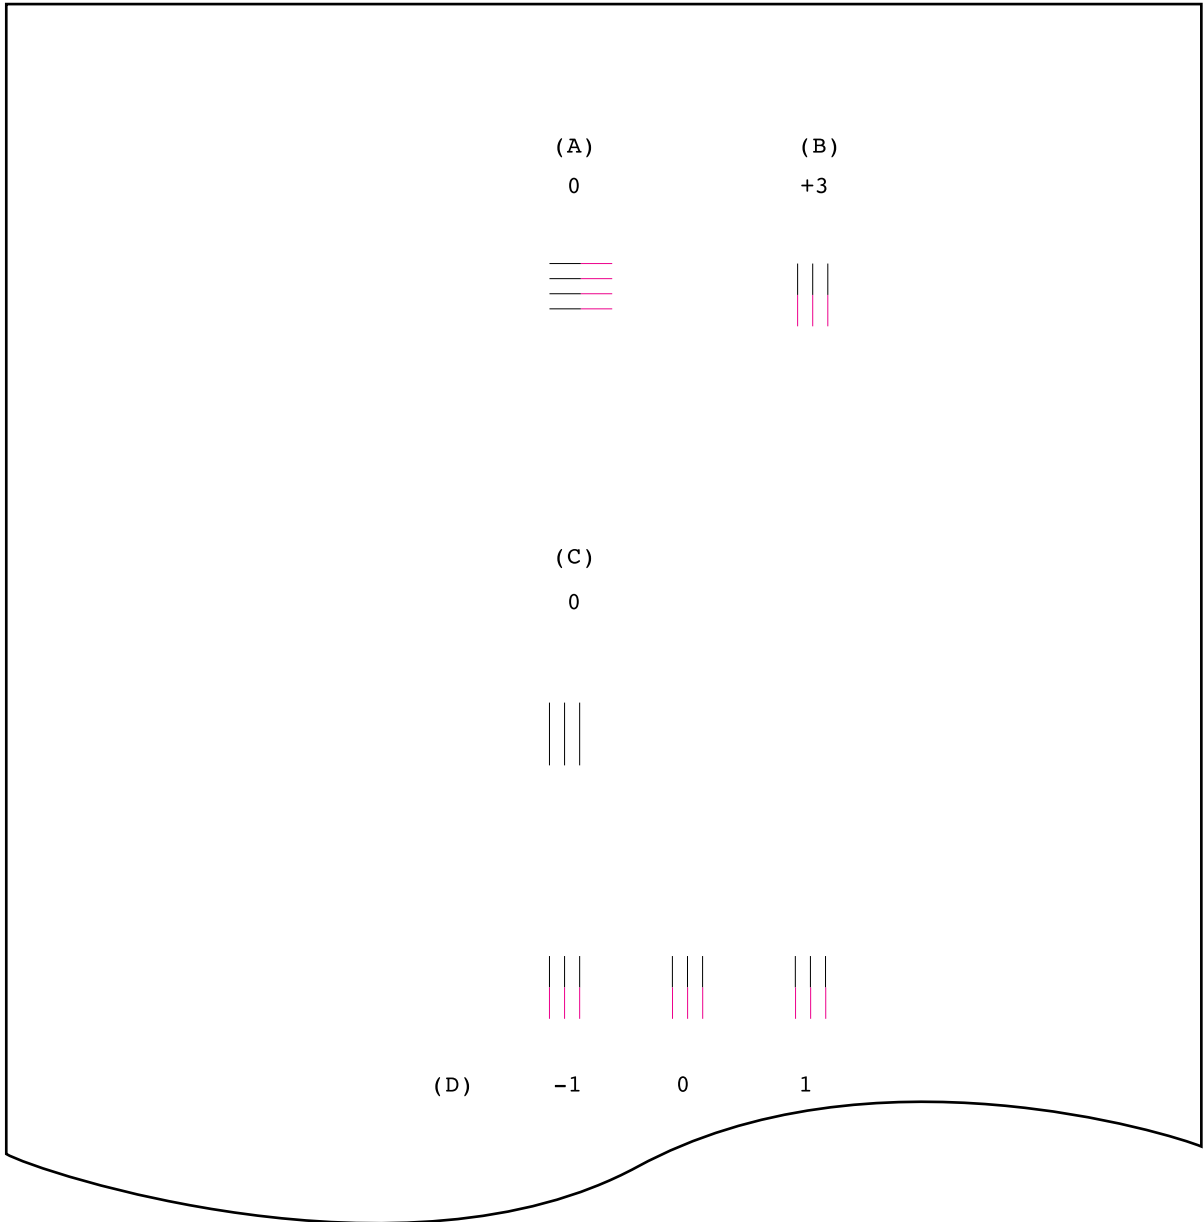

Figure 3-9 Checking the Position of the Print Head (2)
- 4) Follow the instructions on Maintenance Sheet in the printer driver, and print the high-resolution adjustment pattern (*Figure 3-9 Checking the Position of the Print Head (2) (page 3-7)*).